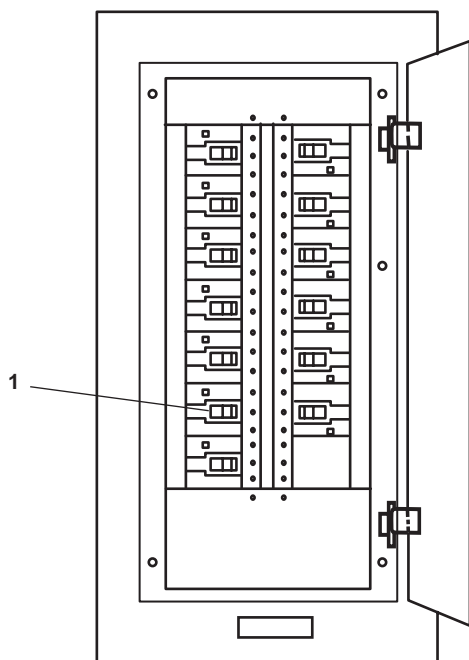

Figure 3. 440V Power Panel No. 1
3. At 440V power panel No. 1, set FUEL OIL TRANSFER PUMP No. 2. circuit breaker (figure 3, item 1) to ON.